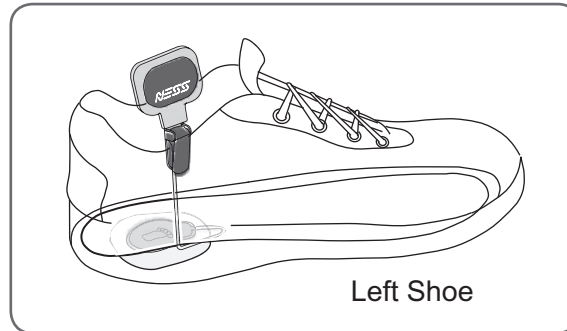

Figure 40: Insole covering the pressure sensor and wire.
6. Cover the pressure sensor with the insole. Tuck any excess wire under the insole. See Figure 40.